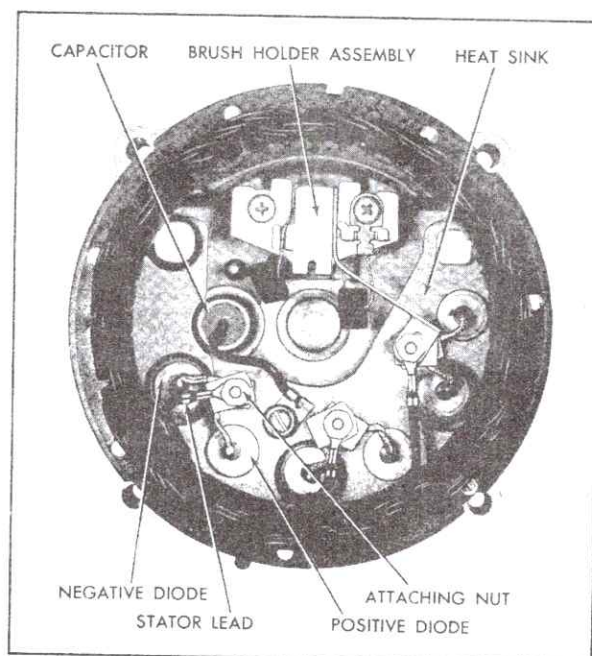

Fig. 6-36 Slip Ring End Frame
8. Remove three nuts and lockwashers that hold diode and stator leads to heat sink, disconnect leads and separate stator from slip ring end frame, Fig. 6-36.